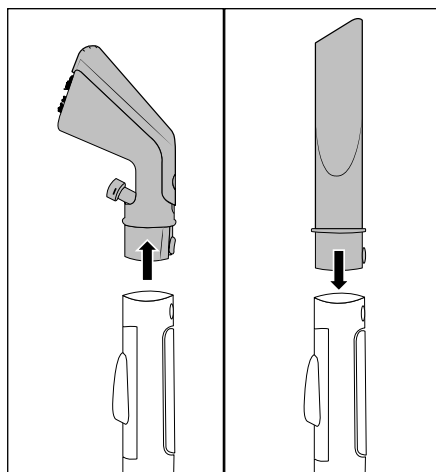

Fig. 8
- ◆ Press the locking button 25/32 and pull the upholstery nozzle 22 or crevice nozzle 29 off the spray/suction hose 19 (see Fig. 8).